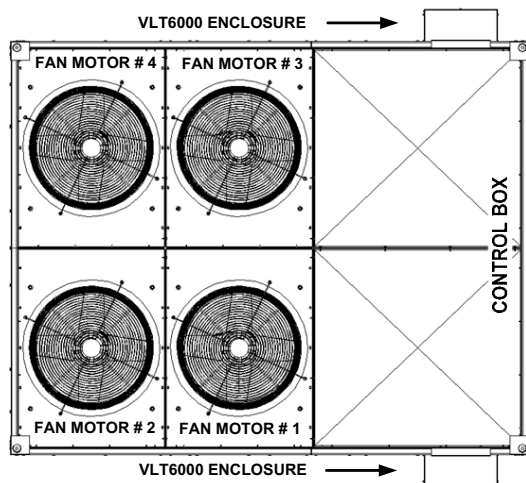

FIGURE 7 - FAN MOTOR #1 LOCATION
3. Install the VLT6000 enclosure with the provided screws. Mounting holes are pre-punched in the top rails to locate the enclosure near the condensing unit control box. See Figure 7.